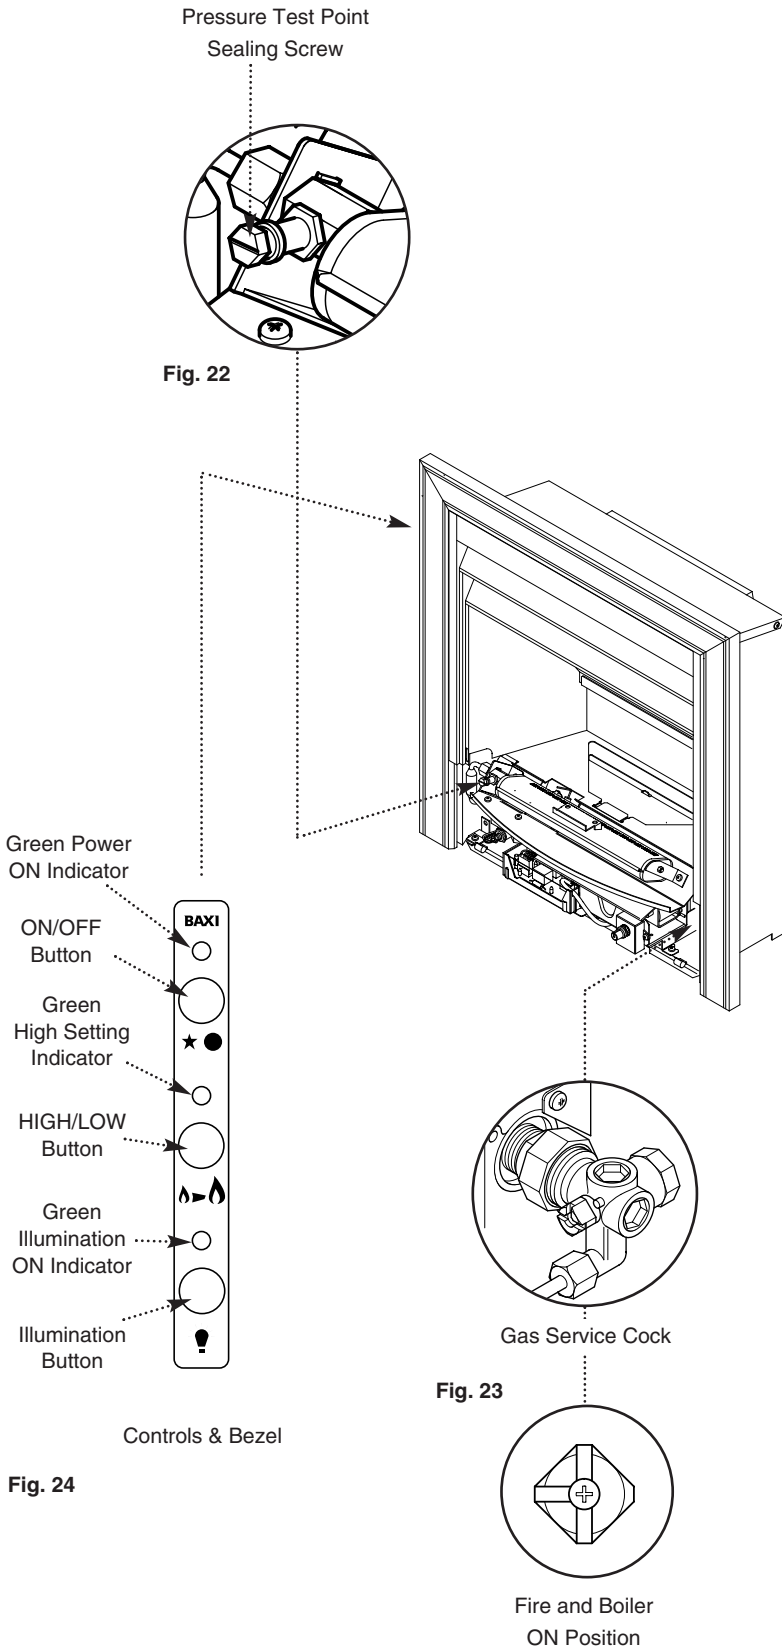

Fig. 24
1. Turn on the main gas and electrical supply and press the  button (Fig. 24) to check that the illumination effect operates.
6. The ON button has a safety feature built in. It should be pressed and held for 3-4 seconds. (The green power ON indicator comes on when the ON/OFF button is pressed (Fig. 24).)
8. If the fire fails to ignite or goes out at any time, switch the fire off by pressing the ON/OFF button once and repeat the procedure (Fig. 24).
9. Turn the fire to high setting by pressing the HIGH/LOW button. The green high setting indicator will come on to confirm this (Fig. 24). This operation can be undertaken during the ignition sequence.
11. Pressing the ON/OFF button once will turn the fire off. The green power ON indicator will go out to confirm this (Fig. 24). Disconnect the pressure gauge and replace the pressure test point sealing screw, ensuring a gas tight seal (Fig. 22).